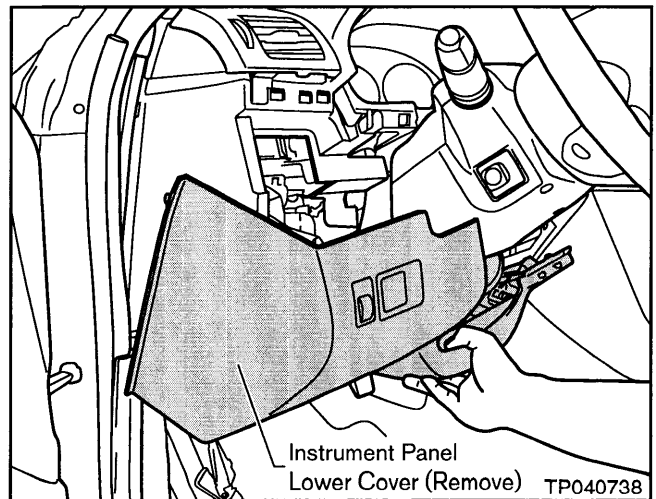

Figure 4
- d. Remove the Instrument Panel Lower Cover by pulling out (towards the rear of the vehicle). See Figure 4.